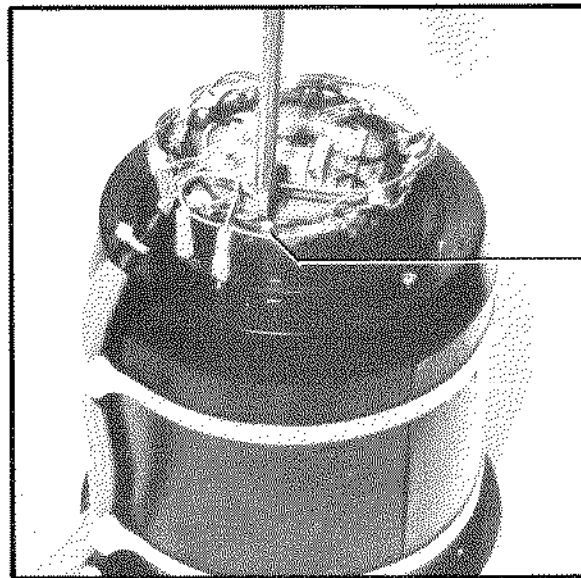

Fig. 3-25:
- Loosen the 6 fastening screws from the pump unit (Fig. 3-25).